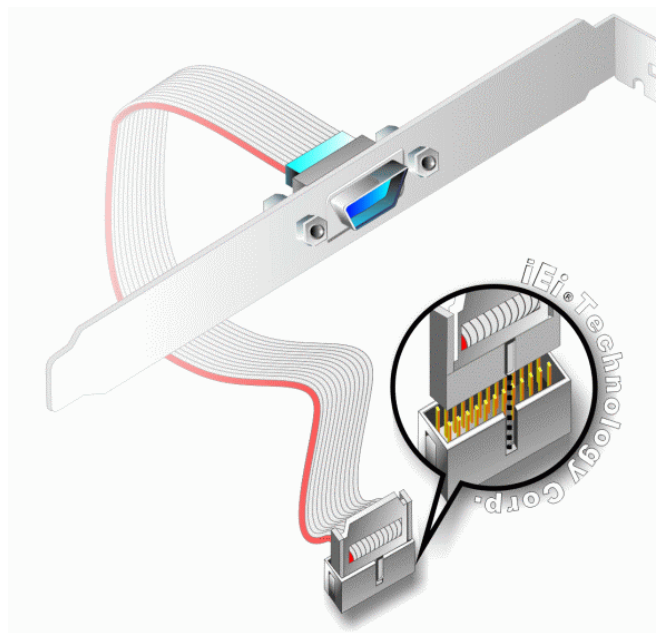

Figure 5-12: Single RS-232 Cable Installation
Step 2: Insert the cable connector. Insert the connector into the serial port box header. See **Figure 5-12**. A key on the front of the cable connectors ensures the connector can only be installed in one direction.